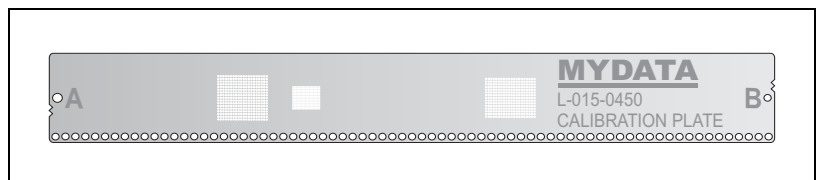

Figure 4-1. L-015-0450 Area Calibration Plate.
- Area Calibration Plate (L-015-0450), see Figure 4-1.